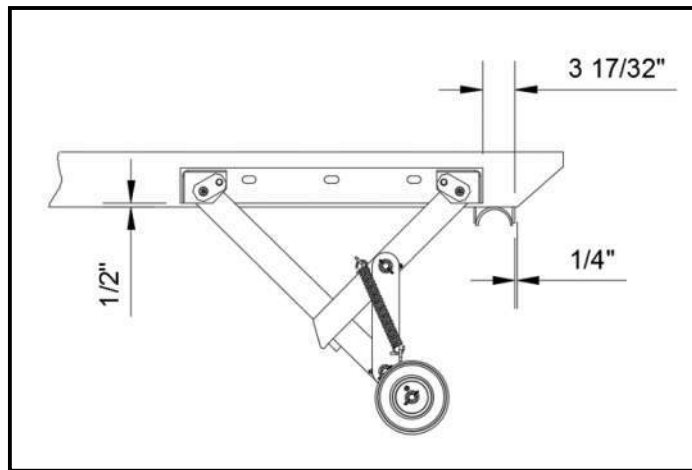

Figure 2
2. Position drop down bumper on the longsills of the sub-frame (See Figure 2 & 3). The mount brackets [Part No. 51H17] need to be positioned correctly to allow for sufficient room for bumper cradles [part no. 51H19] (See Figure 2). Weld mount brackets onto the longsills of the sub-frame.
3. Position bumper cradles [Part No. 51H19] on the longsills of the sub-frame. Check bumper cradles for squareness with respect to each other. The bumper tube [Part No. 51H16] should come to rest within the bumper cradles when the container rests on the ground (See Figure 2 & 3). Weld bumper cradles into place on longsills.